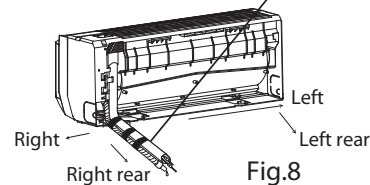

Fig.8
2. Remove the piping from the case. Wrap the piping, wires, and water pipe in electrical tape, then pull them through the piping hole (see Fig. 8).